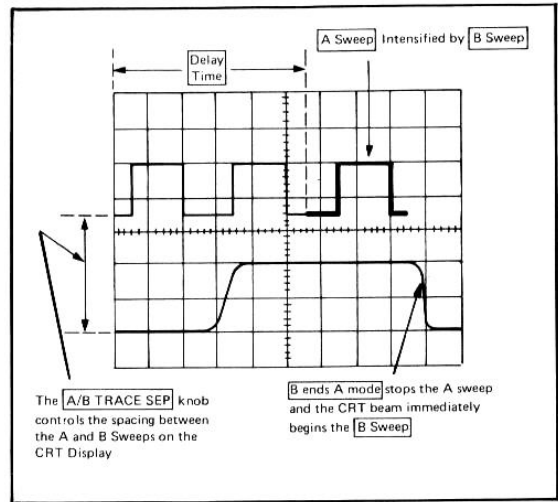

Figure 2-13.
6. In measurement situations where the B sweep is very dim (even with the B INTEN control (4) fully clockwise), you can greatly increase the B sweep brightness by rotating the HOLDOFF control (42) clockwise until it clicks into its B ENDS A position. However, this will eliminate the A trace from the intensified position onward. (See Figure 2-13).